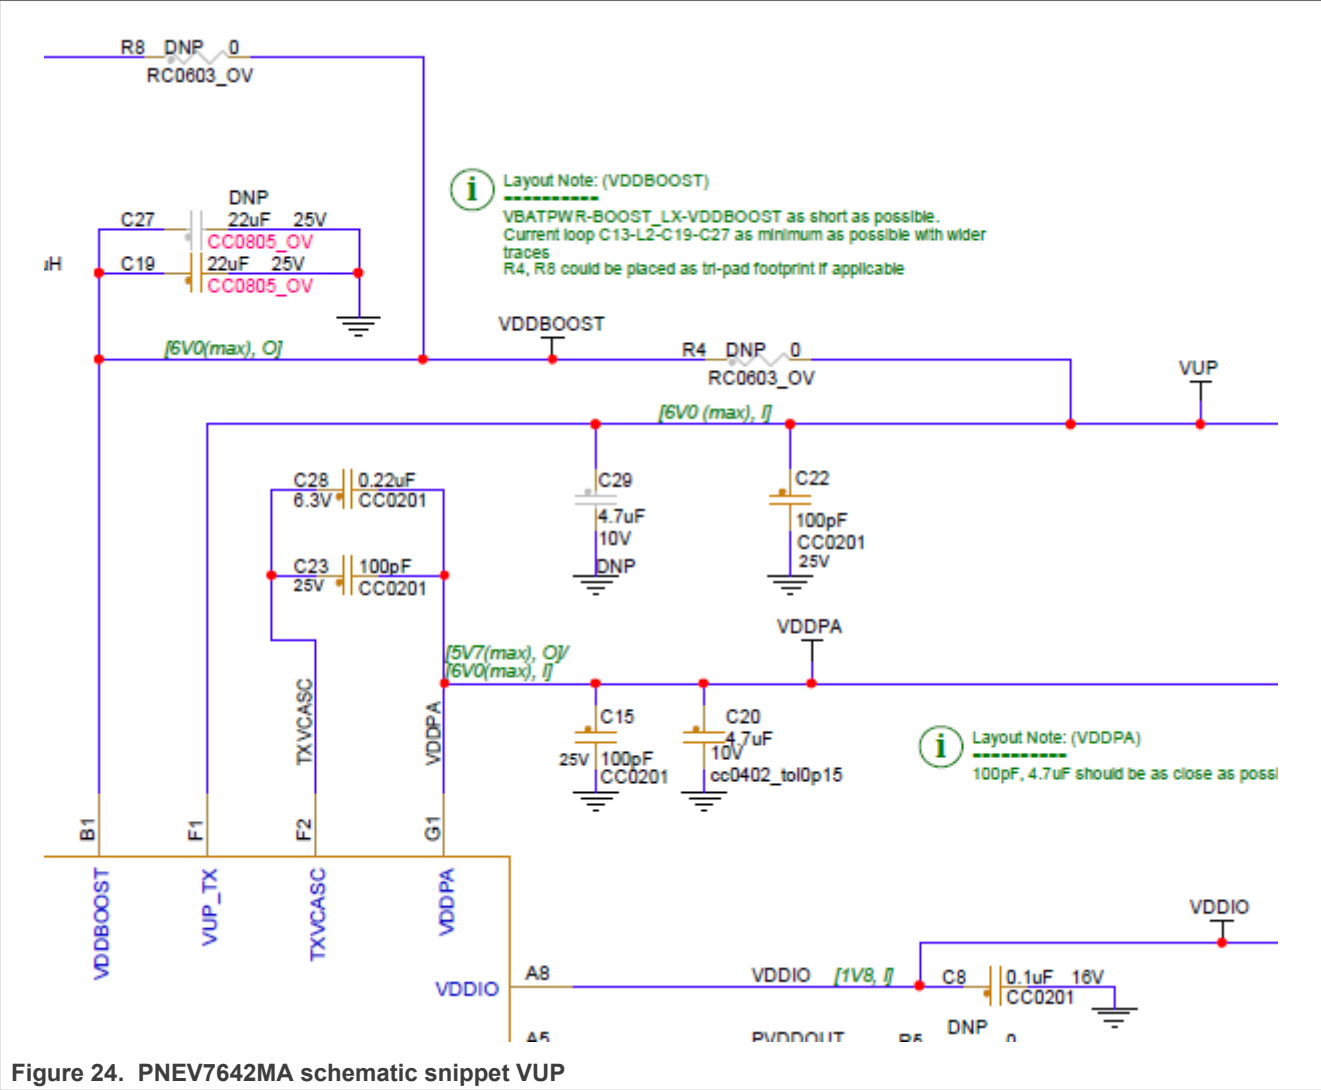

Figure 24. PNEV7642MA schematic snippet VUP
**DCDC disabled:** On this module board, the DC-DC is disabled. R4, C29, and C13 are not populated (see Figure 24). VUP is connected to P5V\_BRD through "J1" of the development board.